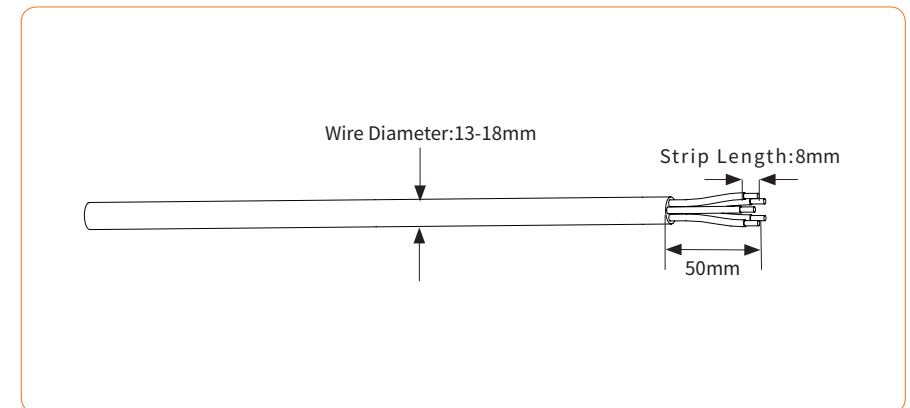

Figure 4-21
② According to the table above, select an appropriate cable, peel the insulation sleeve of AC cable off for 50mm, and peel off the end of 3L /PE / N wires for 8mm, as shown in Figure 4-21: